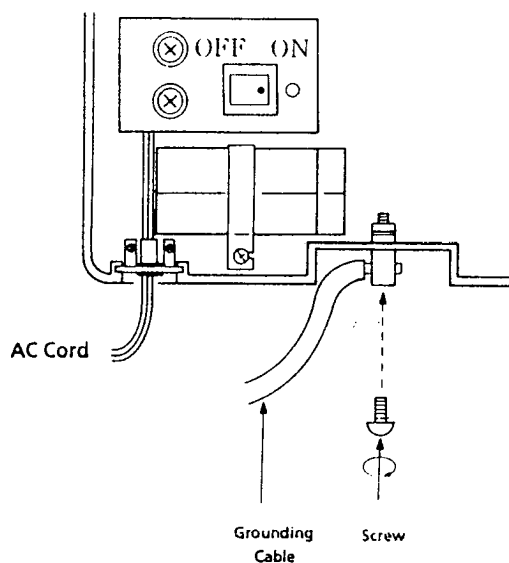

Figure 1-18 KSU Grounding
3. Where a ground (other than conduit ground) is used, a grounding terminal is provided on the ESF-C-10 KSU. (Refer to Figure 1-18 - KSU Grounding.)